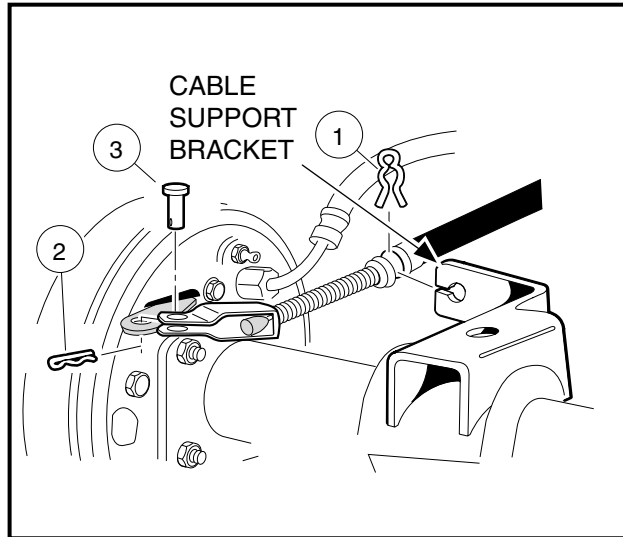

Figure 16-21 Park Brake Cable
- 7.1. Remove the park brake cable clip (1), hair spring cotter pin (2) and clevis pin (3) (**Figure 16-21, Page 16-11**).
- 7.2. Remove the cable from the cable support bracket (**Figure 16-21, Page 16-11**).